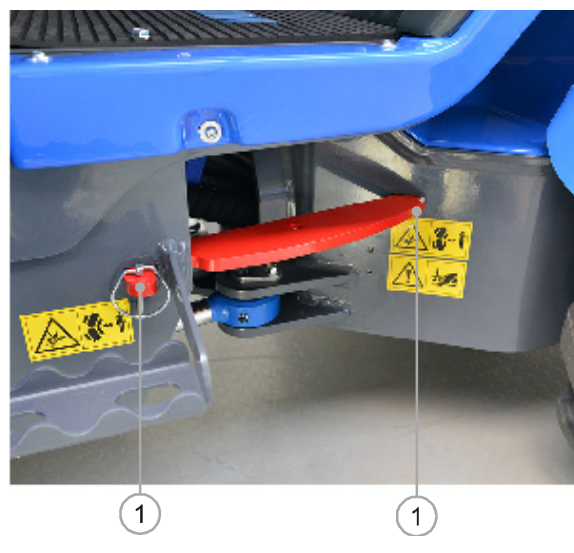

FIG. 20
- 4) Insert the bracket (FIG. 20 - Ref. 1) into the two slits placed on the left side of the machine near the joint of the central steering and secure it by the appropriate plug.